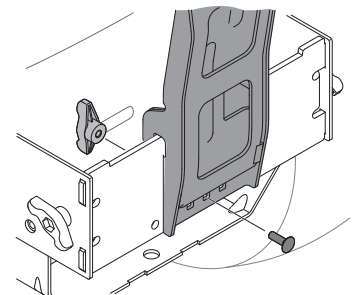

Figure 6
3. Secure the vertical support bracket to the cross mounting bracket using a carriage bolt (710-0276) and wing knob (720-04122) from hardware pack 689-02364. See Figure 6.